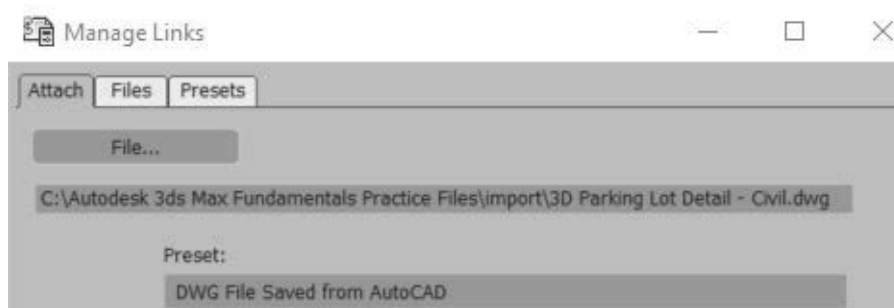

Figure 3–23
2. Select **File>Import>Link AutoCAD**. In the Open dialog box, browse and open the ...\\import folder in the practice files folder. Select **3D Parking Lot Detail-Civil.dwg** and click **Open**. The Manage Links dialog box opens and displays the full path of the file, as shown in Figure 3–23. The full path must display for the import to work correctly.